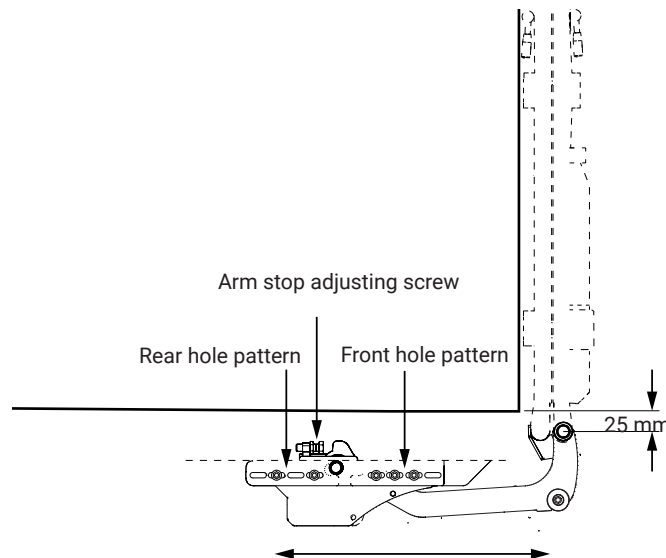

Figure 10. Use the adjusting screws for adjusting the armstop
2. Use the adjusting screws for adjusting the armstop to make the height difference between the center on the lift arms shaft hole and the vehicles body floor to approx. 1 inch, see Figure 10.